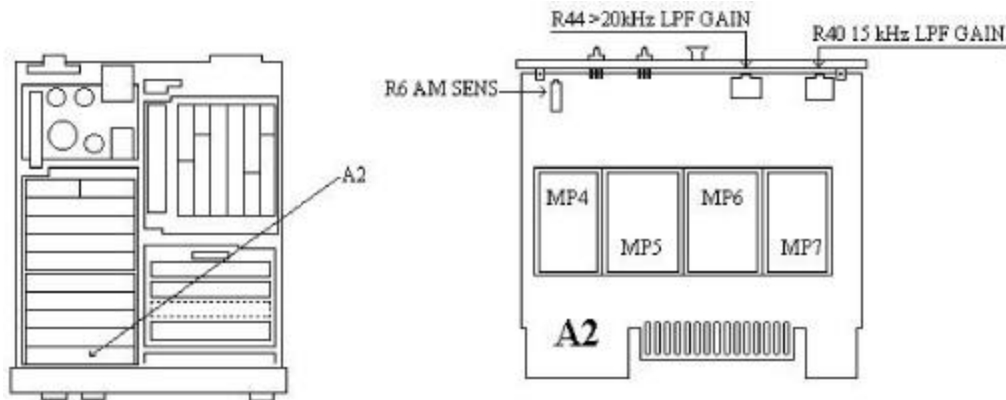
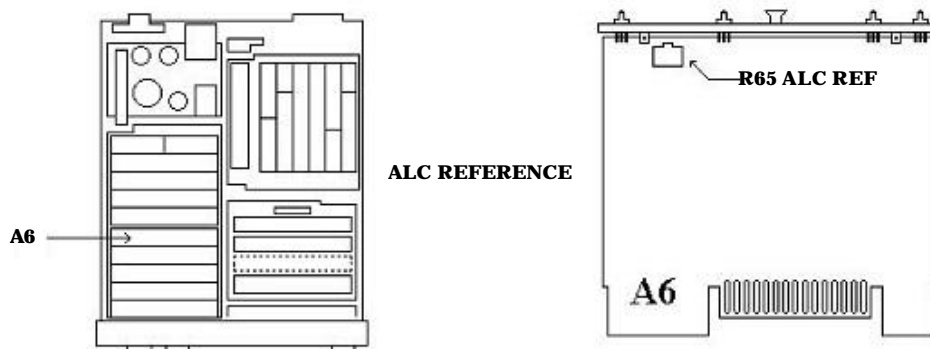
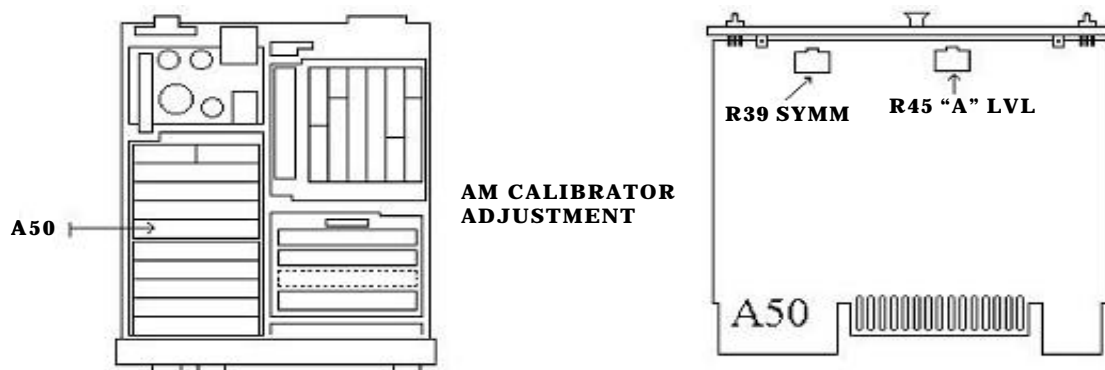

Figure 2. A2 board
Figure 3. A6 board
Figure 5. A50 board
- (1) Disconnect equipment setup.
- (2) Press TI keys as listed in (a) through (f) below:
- (3) Connect TI sensor module to signal generator No. 1 **RF OUTPUT**.
- (4) Set signal generator No. 1 for an output frequency of 500 MHz at 3 dBm with 30 percent AM at a 1 kHz rate.
- (5) Adjust A2R44 >20kHz LPF GAIN (fig. 2) for a display of 99.95 to 100.05 percent (R).
- (6) Press TI **LP FILTER 15 kHz** key.
- (7) Adjust A2R40 15kHz LPF GAIN (fig. 2) for a display of 99.95 to 100.05 percent (R).
- (8) Disconnect TI sensor module from signal generator No. 1 **RF OUTPUT**.
- (9) Connect TI sensor module to TI **CALIBRATION RF POWER OUTPUT**.
- (10) Press TI keys as listed in (a) through (d) below:
- (11) Adjust A6R65 ALC REF (fig. 3) for a display between 2.0970 and 2.1030 (R).
(37) Adjust A50R45 "A" LVL (fig. 5) for a display of 33.330 to 33.336 percent (R).
- (38) Press TI keys as listed in (a) and (b) below:
- (39) TI display should indicate between 1.8 and 2.2.
- (40) Press TI keys as listed in (a) through (d) below:
- (41) Alternately switch TI **DETECTOR** between **PEAK+** and **PEAK-**. Note the indications for each setting.
- (42) Adjust A50R39 SYMM (fig. 5) until the indications are the same for both detectors within ± 0.015 percent [®].
- (43) Press TI keys as listed in (a) and (b) below:
- (44) Allow TI to take at least two readings, then adjust A2R6 AM SENS (fig. 2) for a displayed indication of 99.95 percent to 100.05 percent [®].
- (45) Press TI **CALIBRATION CALIBRATE** key.
- (46) Reduce all outputs to minimum and disconnect equipment setup.